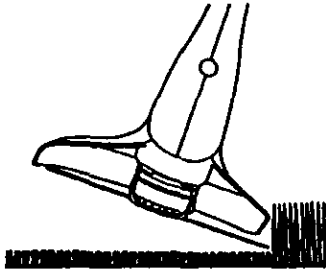

Fig. 11
2. CLOSER TRIMMING (Figure 11). Position trimmer straight ahead with a slight tilt so bottom of stringhead is above ground level and string contact